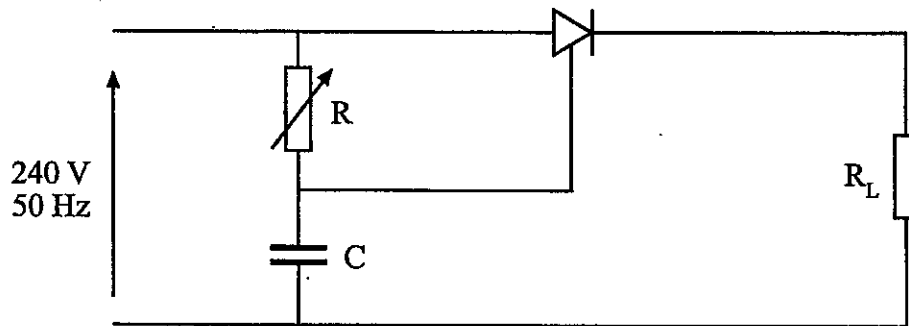

Fig Q9
- (ii) the input current to the transformer; (4)
- (iii) the efficiency at this load and p.f. (4)
7. (a) Sketch the reverse voltage/current characteristics for a low power Zener diode with a breakdown voltage of 10 volts, indicating typical values on the current axis. (4)
- (b) Sketch a simple voltage stabilising circuit using the Zener diode described in Q7(a). (4)
- (c) State which factors determine the choice of series resistor in the circuit sketched in Q7(b). (4)
- (d) State the circuit conditions which cause the power dissipated in the Zener diode to be a maximum. (4)
8. (a) Describe, with the aid of a basic circuit diagram, a method of reducing the current drawn by a squirrel cage motor during starting. (8)
- (b) Explain how the starting torque will be affected by the method of starting outlined in Q8(a) compared to the torque available using direct on line starting. (5)
- (c) State ONE type of load which is suited to being driven by an induction motor started at reduced voltage. (3)
9. (a) State the conditions necessary to *turn on* and *turn off* a thyristor (silicon controlled rectifier). (4)
- (b) Describe the operation of the circuit shown in Fig Q9. (8)